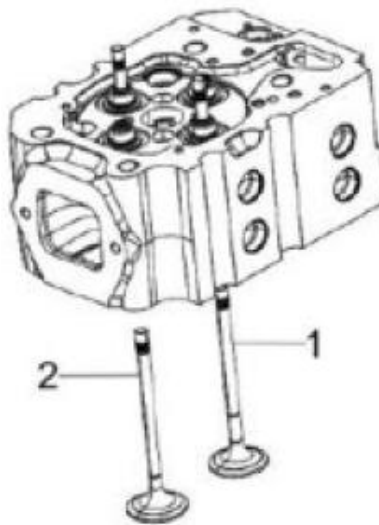

Figure 62. Valve Assembly
5. Place the cylinder head on the workbench with the combustion side down to install the valve springs. Install the valve springs (Figure 62, Items 3 & 4) and the spring retainers (Figure 62, Item 2).